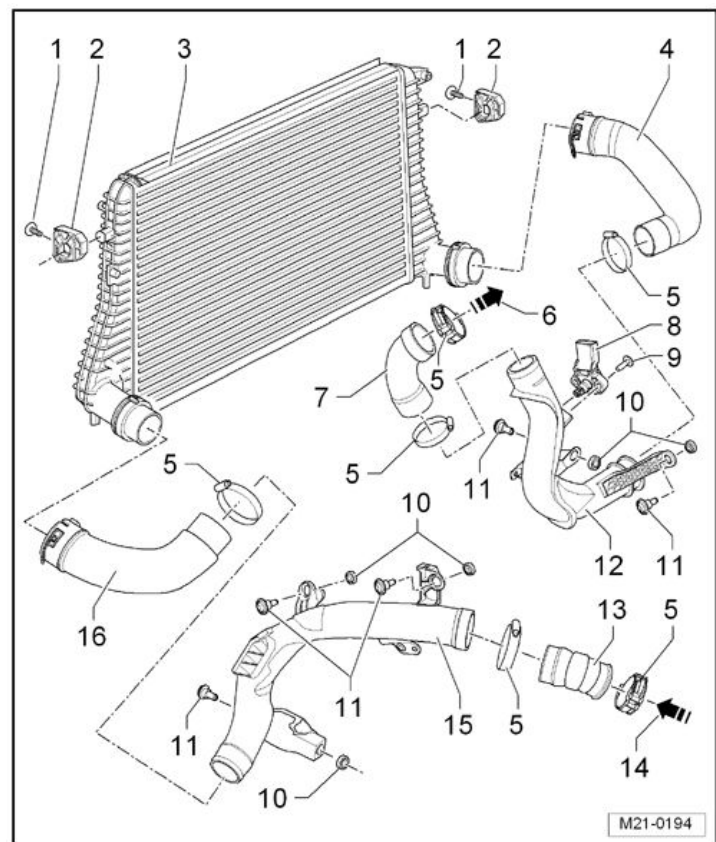

Figure 1: Charge air cooler and intake hose layout
4. Remove the original charge air cooler (Figure 1, number 3) from the vehicle.
5. Remove the lower charge pressure hoses (Figure 1, numbers 4 and 16) and clean off any moisture or sludge. See *Repair Manual Group 21* >> *Turbocharger/G-Charger* >> *Description and Operation* >> *Component Overview* in ElsaWeb.
6. Remove cold side charge air pipe (Figure 1, number 12) and pressure hose to throttle valve (Figure 1, number 7).
11. Install the cold side charge air pipe (Figure 1, number 12) and connect the charge air pressure sensor -G31- electrical connector.
17. Install the revised charge air cooler (Figure 1, number 3) with regulating flap and connect the regulating flap vacuum hose.